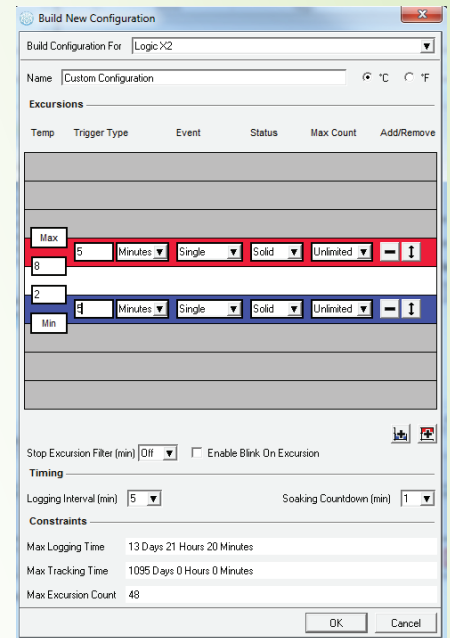

Figure 3
To create a custom profile, click “Add” and enter the custom profile parameters (Figure 3). Once finished, click “OK” and this profile will always be available in the custom profile section. Name the custom profile something meaningful to you for easy identification.
8. Unplug the LOG-IC from the computer. Hold the ON/OFF button until the ACTIVE light is a solid green. The tag will start recording once it has gone through the soaking countdown that was set during the configuration process (Figure 3). If you press the ON/OFF button more than once during the soaking countdown, the soaking time restarts.